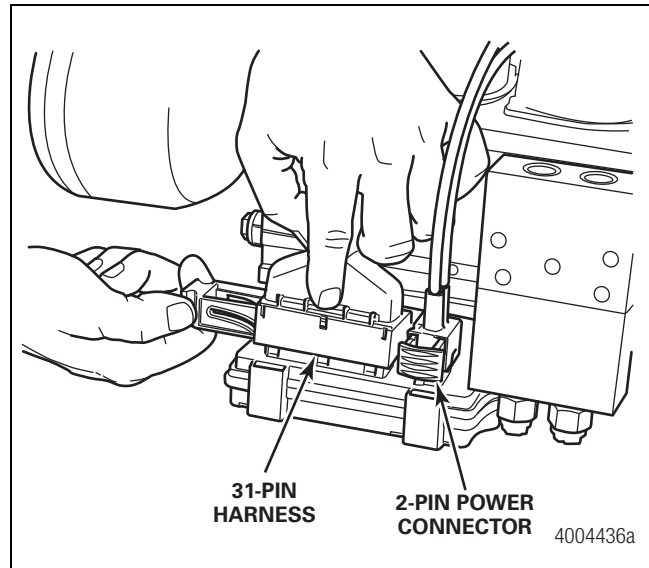

Figure 4.4
14. Open the latches on the two-pin power connector and the 31-pin harness attached to the ECU. After the latch is released, remove the connectors from the ECU. Figure 4.4.